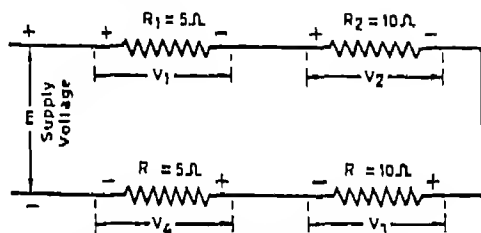

Fig 11.2 Four Resistances in Series
- (i) Connect resistors as shown in Fig. 11.2 and measure resistance of the whole circuit as well as of each resistor using a multimeter. Record the observations. It shows  $R_{eq} = R_1 + R_2 + R_3 + R_4$ .